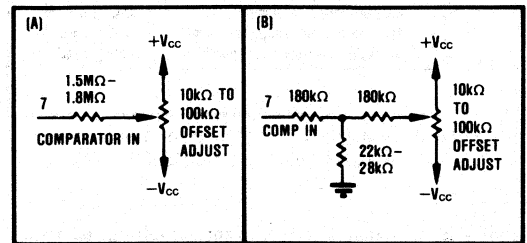

FIGURE 5. Two Methods of Connecting Optional Offset Adjust.
Gain and offset errors may be trimmed to zero using external offset and gain trim potentiometers connected to the ADC804 as shown in Figures 5 and 6 for both unipolar and bipolar operation. Multiturn potentiometers with 100ppm/°C or better TCR are recommended for minimum drift over temperature and time. These potentiometers may be of any value between 10kΩ and 100kΩ. All fixed resistors should be 20% carbon or better. Although not necessary in some applications, pin 12 (Gain Adjust) should be preferably bypassed with a 0.01μF nonpolarized capacitor to analog common to minimize noise pickup at this high impedance point, even if no external adjustment is required.
**OFFSET**—Connect the offset potentiometer as shown in Figure 5. Set the input voltage to the nominal zero or minus full-scale voltage plus 1/2LSB. For example, referring to Table I, this value is  $-10V + 2.44mV$  or  $-9.99756V$  for the  $-10V$  to  $+10V$  range.